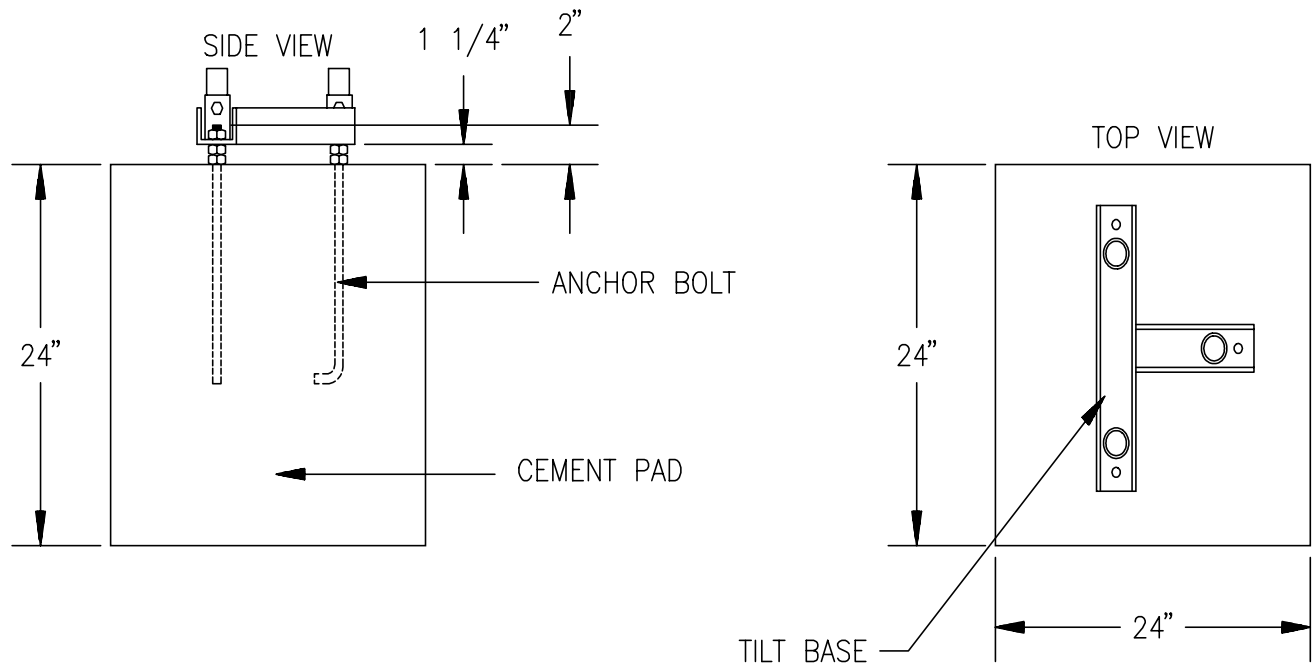
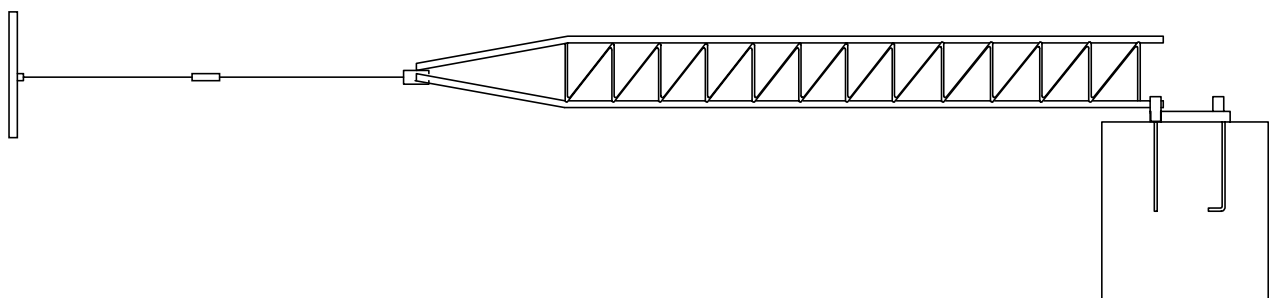

FIGURE 1.4-1. NW8002 Cement Base
FIGURE 1.4-2. NW8002 Tower with Tilt Base
The tower mounts on a cement foundation as shown in figure 1.4-1. Provided with the tower is a tilt base (figure 1.4-2), anchor bolts, and nuts. The tilt base will also be used as a template.
Step 2 — Approximately 0.3 cubic yards of cement is required to fill the hole. While the cement is setting, assemble the template (tilt base) and anchor bolts (figure 1.4-1). Set the anchor bolts in the cement leaving the threaded end of the bolts a minimum of 2" above the cement (Figure 1.4-1). This will allow the tower base to rest on the double nuts about 1 1/4" above the cement surface. **Be sure to level the base!** Allow time for the cement to setup before mounting the tower.